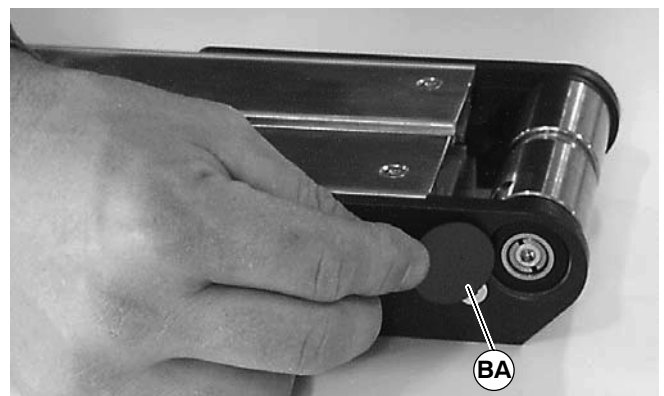

Figure 51
6. Install bearing covers (BA of Figure 51).